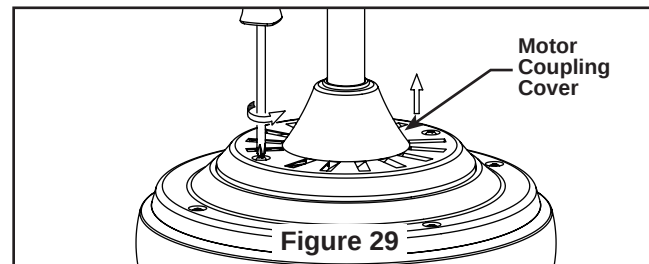

Figure 29
- ☐ 1. Remove motor coupling cover by unscrewing the two screws. (Figure 29)